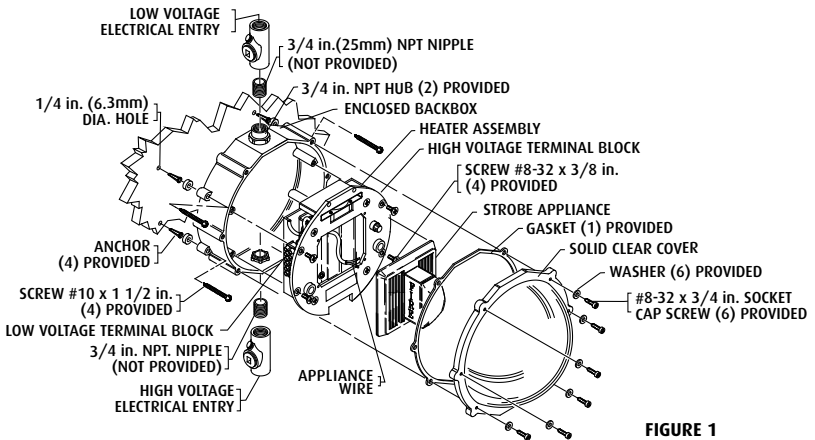

FIGURE 1
MOUNT BACKBOX TO WALL (Refer to Fig. 1)
2. Mount backbox in desired location (wall mount only) using the four #10 x 1-1/2" screws and anchors (provided). Drill a 1/4" diameter pilot hole for plastic anchors at spacing in Fig. 1.
- 9.** Attach heater assembly to backbox using (4) #8-32 x 3/8" flat head screws into heater assembly mounting bosses on backbox (see Fig. 1). Make sure all service wiring is gathered away from the heater and be careful not to pinch wire under heater assembly. Fan must be mounted toward top of enclosure.